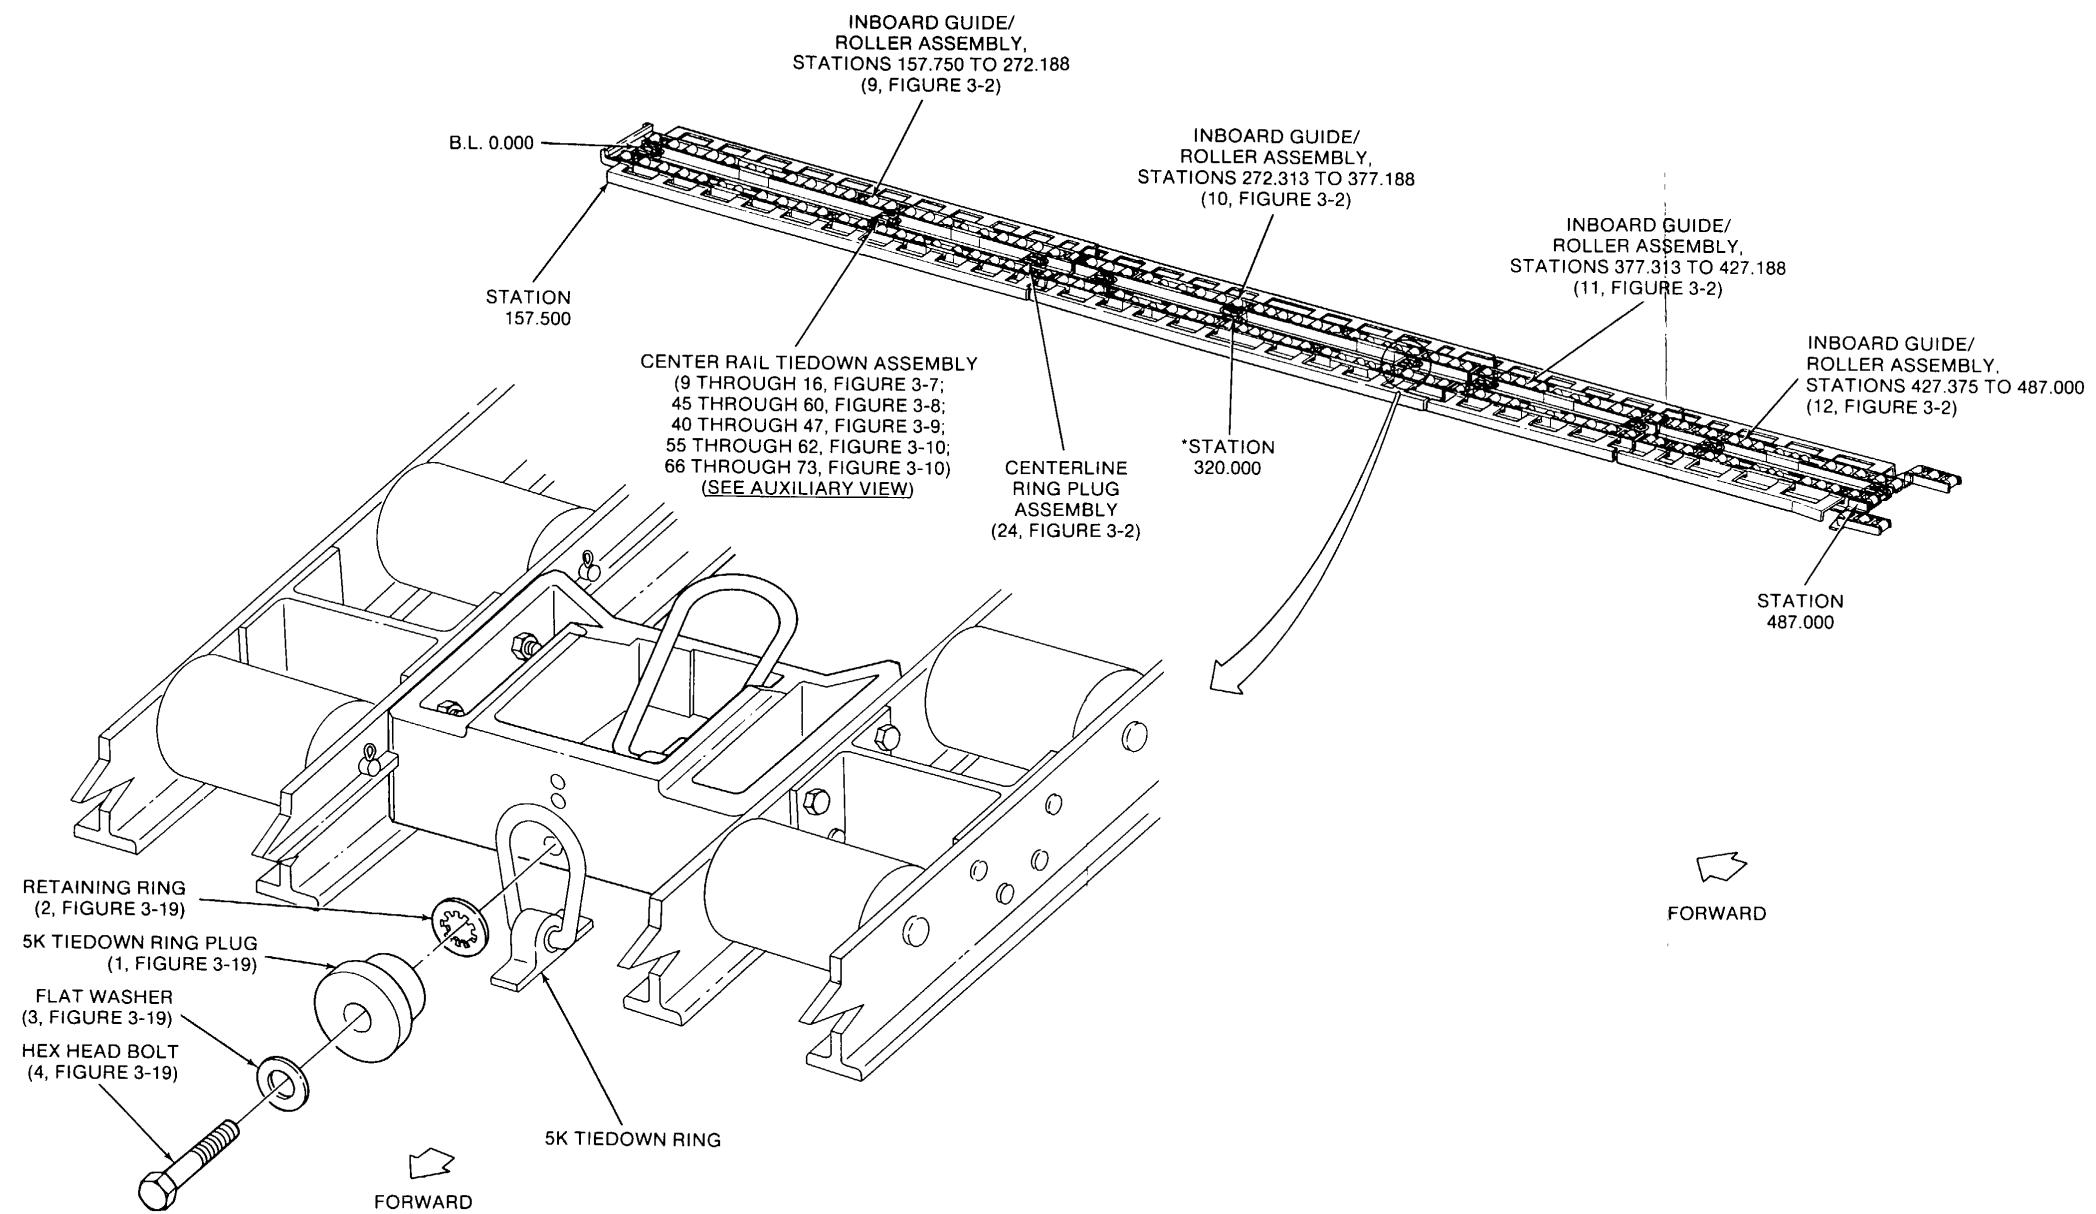

Figure 2-11. Installing Inboard Guide/Roller Assemblies
(1) Position inboard guide/roller assembly, station 157.750 to 272.188 (9) on B.L. 0.000. Make sure the forward end is aligned at station 157.750 as shown in Figure 2-11.
(2) Connect three tiedown assemblies (9 through 16, Figure 3-7), as shown in Figure 2-11, to 5k tiedown rings on the helicopter floor. Use centerline ring plug assemblies (24, Figure 3-2).
(3) Position inboard guide/roller assembly, stations 272.313 to 377.188 (10) on B.L. 0.000 directly behind inboard guide/roller assembly, stations 157.750 to 272.188 (9).
(4) Connect three tiedown assemblies (45 through 60, Figure 3-8), as shown in Figure 2-11, to 5k tiedown fitting assemblies (21, Figure 3-2) on the helicopter floor. Use centerline ring plug assemblies (24).
(5) Position inboard guide/roller assembly, stations 377.313 to 427.188 (11) on B.L. 0.000 directly behind inboard guide/roller assembly, stations 272.313 to 377.188 (10).
(6) Connect two tiedown assemblies (40 through 47, Figure 3-9), as shown in Figure 2-11, to 5k tiedown fitting assemblies (21, Figure 3-2) on the helicopter floor. Use centerline ring plug assemblies (24, Figure 3-2).
(7) Position inboard guide/roller assembly, stations 427.375 to 487.000 (12) on B.L. 0.000 directly behind
(8) Connect two tiedown assemblies (55 through 62 and 66 through 73, Figure 3-10), as shown in Figure 2-11, to 5k tiedown fitting assemblies (21, Figure 3-2) on the helicopter floor. Use centerline ring plug assemblies (24).